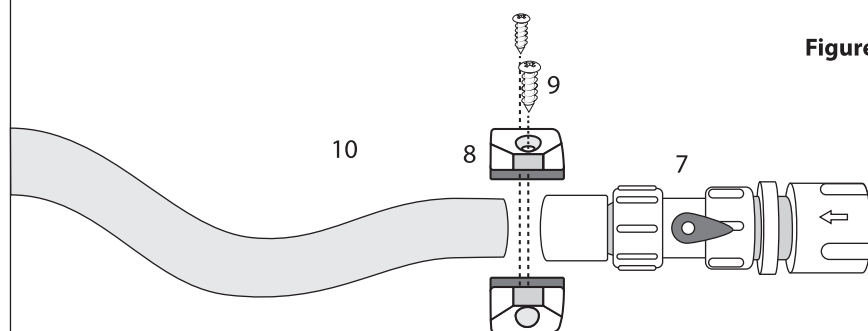

Figure 8
- 2 Locate the Hose Connector Valve Assembly (7). This is your **INLET ADAPTER**.
- 3 Uncoil the hose (10) from previous hose assembly (Figure 2) and remove all twists. Attach end of the hose to the **INLET ADAPTER** from Step 2 (Figure 8). Connect the hose with a Hose Connector Clamp (8) and Screws (9).